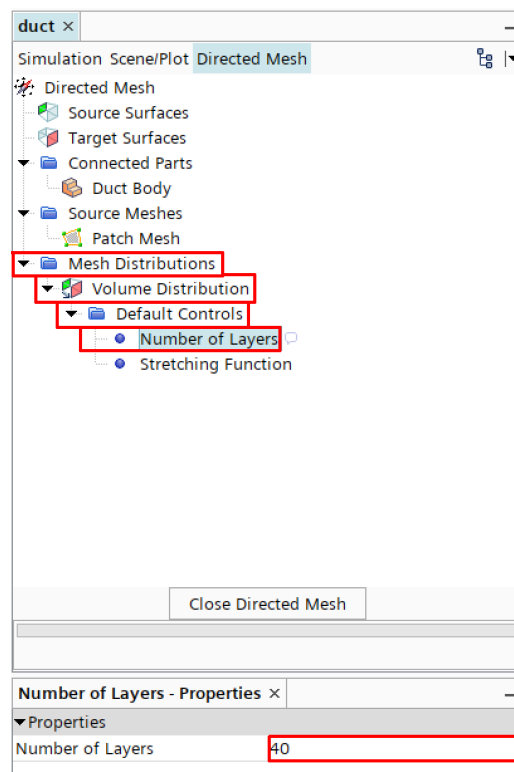

Figure 29: Process defining the volume distribution.
12. Select Mesh Distributions → Volume Distribution → Default Controls → Number of Layers and in the Properties Window, change the Number of Layers to 40 and hit Enter. This process is shown in Figure 29.